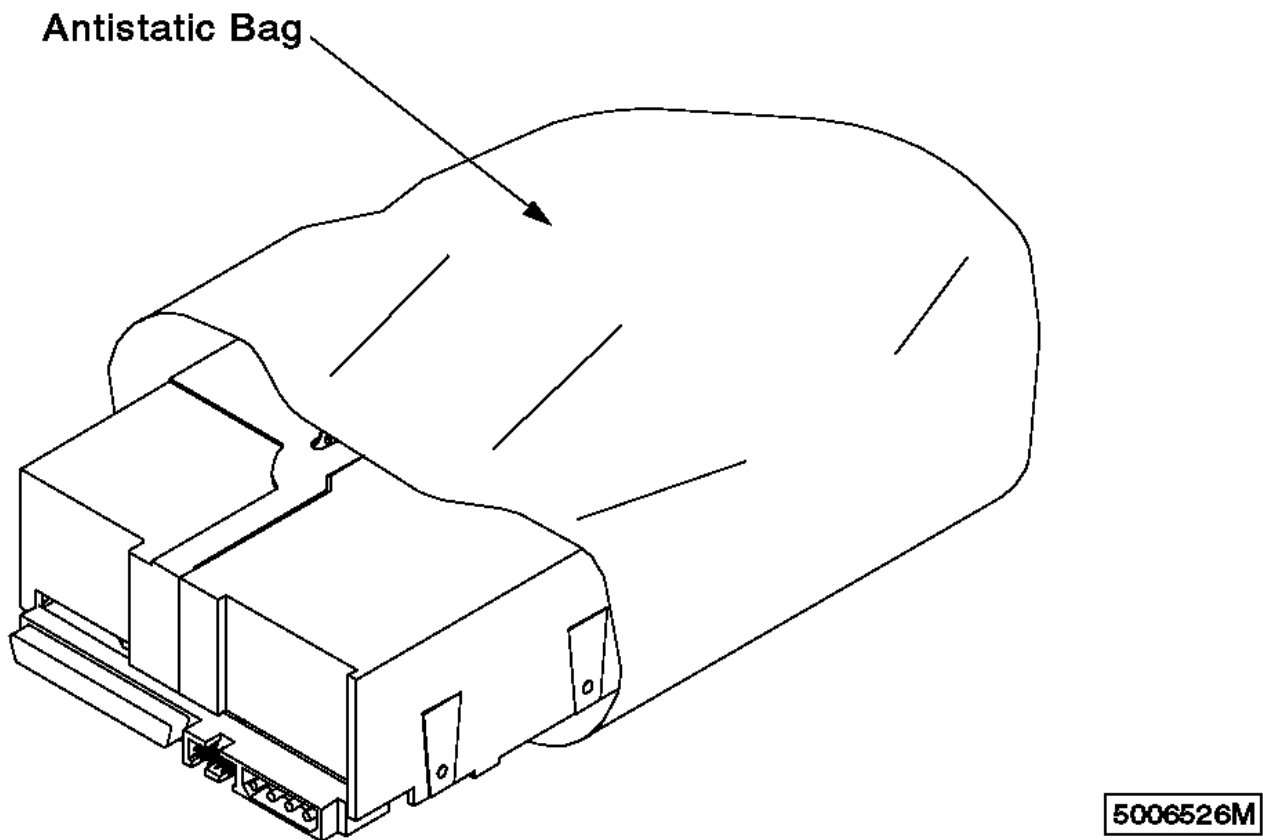

Figure 5-1. Antistatic Bag
2. Do not remove the ESD-sensitive part from the antistatic bag (see Figure 5-1) until you are ready to install it.